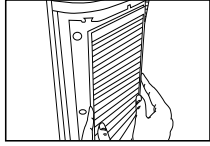

Fig. 9
5. Place the clean HEPA filters back in the main unit, making sure that it is firmly seated inside the unit. Fig. 9